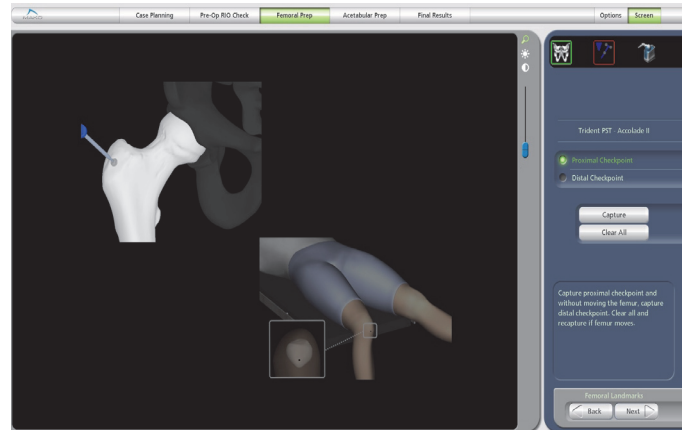

Figure 10. Proximal Femoral Checkpoint
2. Prior to dislocation, locate the recommended Proximal Femoral Checkpoint position on the lateral portion of the Greater Trochanter as shown in (Figure 10).